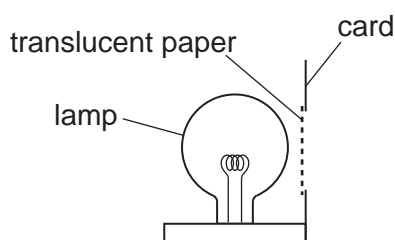
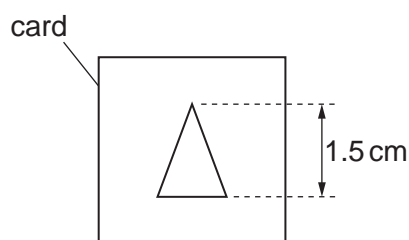

Fig. 4.1
Fig. 4.2
- (ii) Illuminated object with a triangular hole of height approximately 1.5 cm (see Fig. 4.1 and Fig. 4.2). The hole is to be covered with thin translucent paper (e.g. tracing paper).